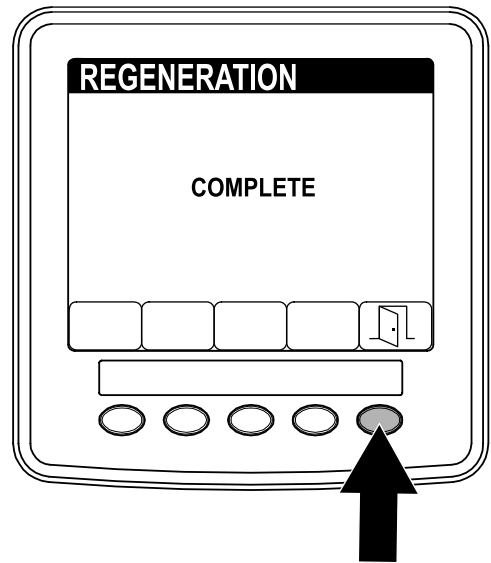

Figure 71
5. When regeneration completes, the COMPLETE screen displays in the InfoCenter. Press button 5 to return to the SERVICE menu (Figure 71).